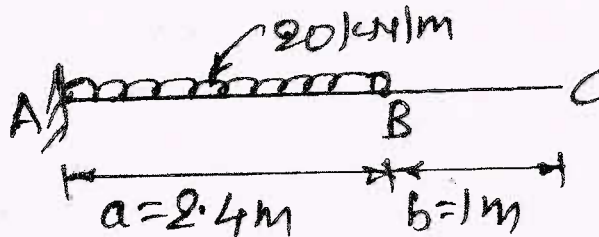

Fig Q3(c)
c. For the cantilever beam shown in Fig Q3(c), compute the slope and deflection at the free end. Take  $EI = 4 \times 10^{12} \text{ Nmm}^2$ . Use Macaulay's method.